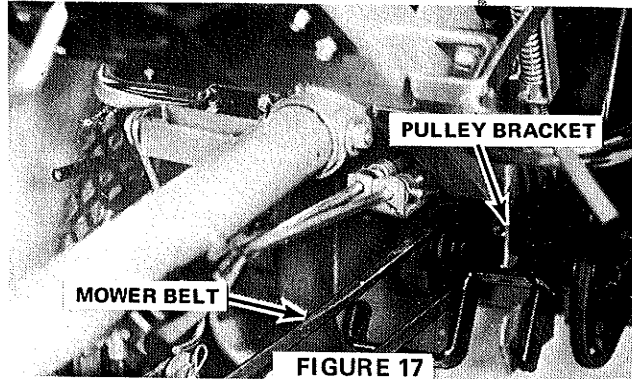

FIGURE 17
2. Pull the power take-off pulley bracket forward against the spring tension enough to slip the belt off the pulley. (Figure 17).